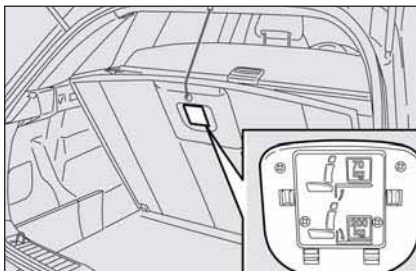

fig. 112
**Boot loading surface set at top position can withstand 70 kg max. and 200 kg at bottom position as shown on the proper label set under the loading surface (see fig. 112).**